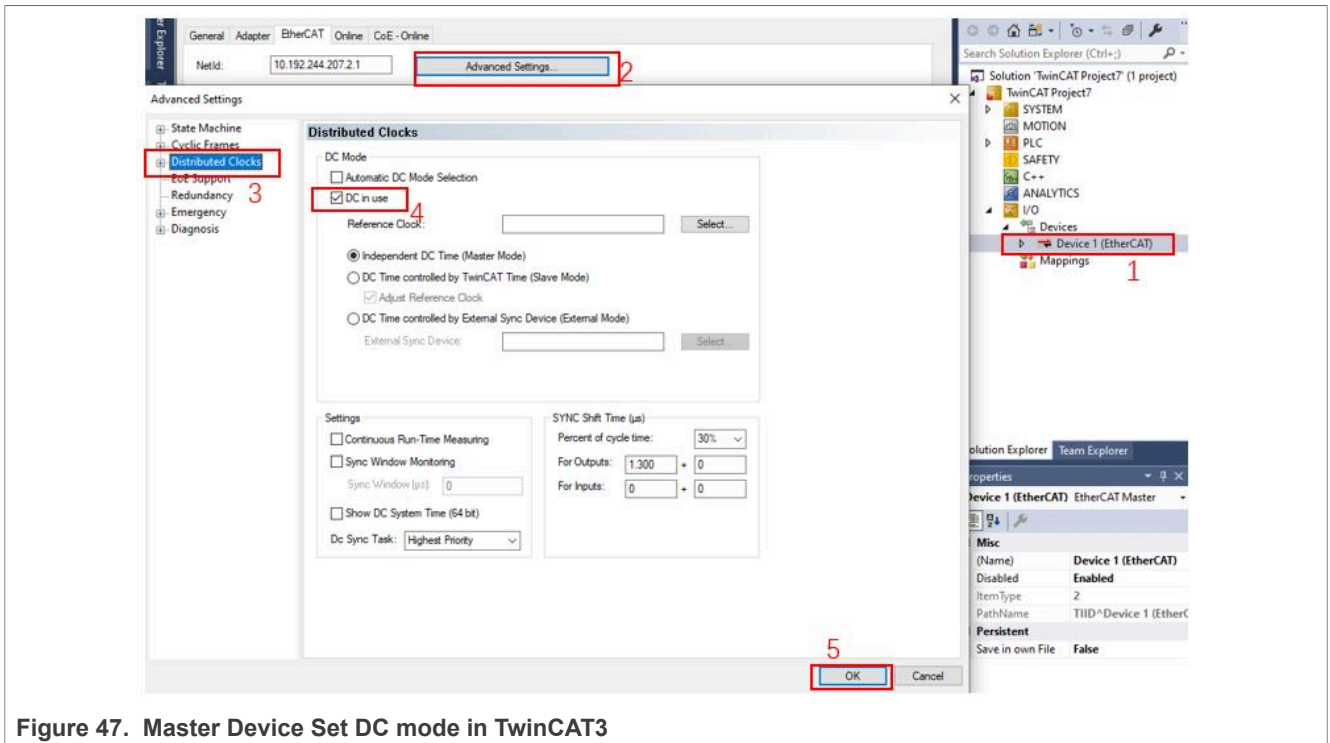

Figure 47. Master Device Set DC mode in TwinCAT3
2. Configure DC mode in TwinCAT3. The steps to set DC mode in TwinCAT3 are shown in Figure 47.